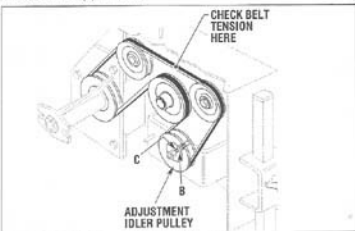

Figure 5-2: Drive belt inspection and adjustment.
3. After inspecting the belt closely (see Figure 5-2), replace interlock wire clamp, the belt cover, the belt cover hardware, and reconnect the spark plug wire if the belt does not need replacement.
2. Loosen the bolt (A) behind the adjustment idler pulley using a 9/16" wrench. See Figure 5-2.
3. Back off the jam nut (B) on the adjustment screw (C) using a 7/16" wrench. Turn down the adjustment screw to tighten the belt until the movement of the belt at the position shown in Figure 5-2 is one belt width. If the adjustment screw protrudes out and the belt is still too loose, replace the belt.
4. Tighten the jam nut (B). Securely tighten the nut (A) behind the adjustment idler pulley.